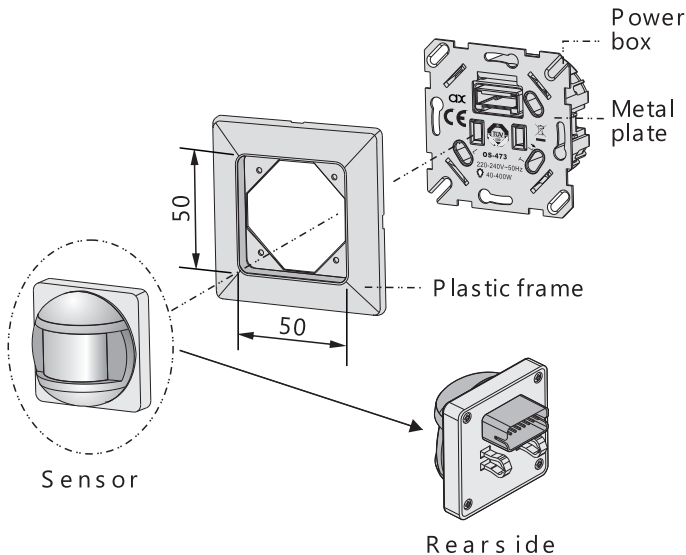

FIG.2
FIG.2 shows the individual part of KDP8. The internal size of plastic frame is 50 x 50MM which can be replaced by other European standard plastic frame with same dimension.
- Put the detector head and the plastic frame together, then insert the combination of detector head and plastic frame into the power box by means of hook aiming at the notch. Please ensure the pin array and female socket are well fixed (See FIG.2).